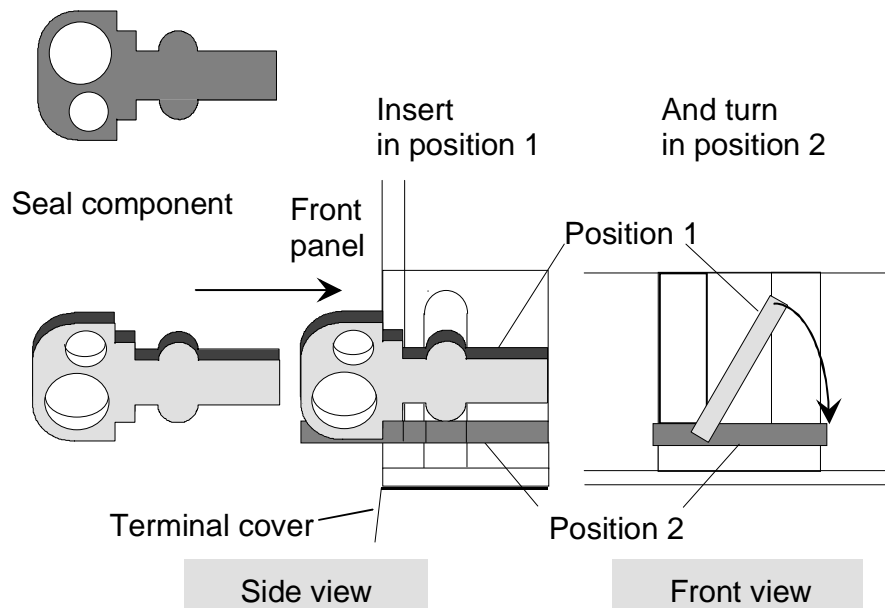

Figure 4.3 Seal component for use with padlock
- A seal (utility own seal) situated between the two calibration seals prevents the front cover from being hinged upwards and thus secures the dial face and the reset button. An additional component, which is easy to install, allows the use of a standard padlock instead of a utility seal. (see Figure 4.3).